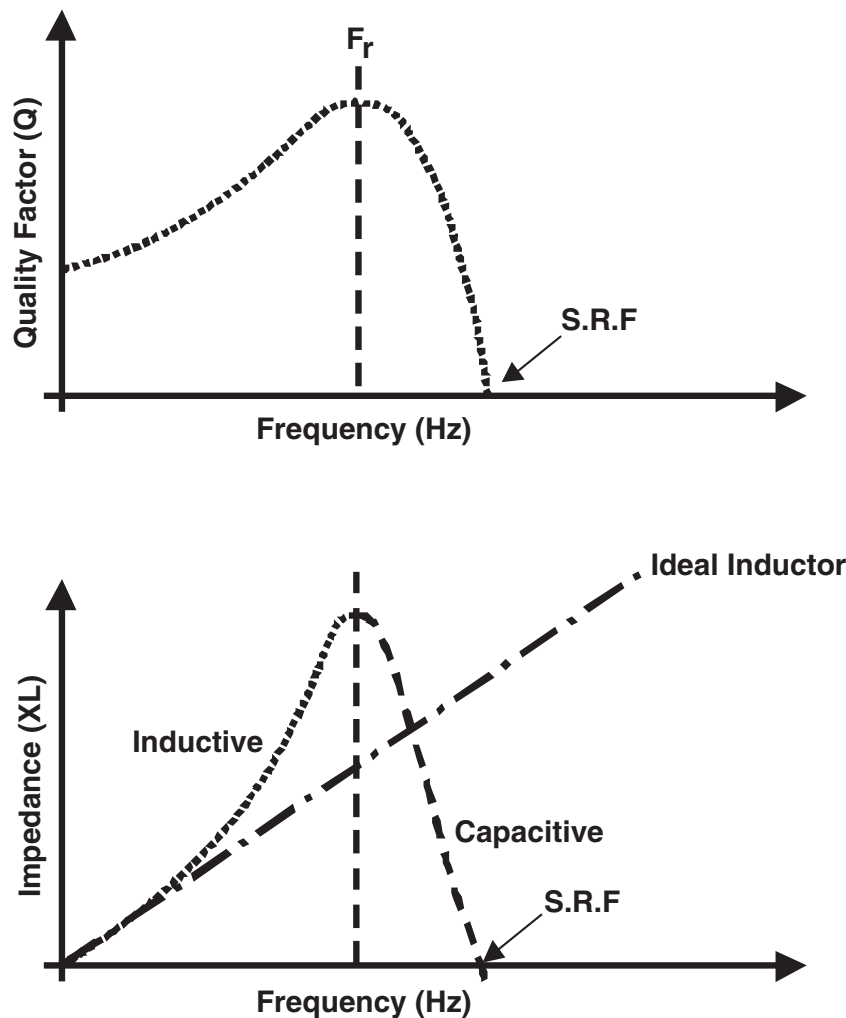

Fig. 2.0 Impedance and Inductance Characteristic of a Real World Inductor
The effect of C_d can have a dramatic effect upon the impedance of the inductor as illustrated in Fig 2.0, because "fringe" effects become dominant at high frequencies. At low frequencies the inductor's reactance parallels that of an ideal inductor. With increasing frequency the reactance of the inductor departs from the ideal curve and increases at a much faster rate until it reaches a peak value at the inductor's parallel resonant frequency (F_r). Above F_r the inductor's reactance begins to decrease with increasing frequency and thus the inductor begins to look like a capacitor. The series resistance (R_s) of the coil prevents the impedance of the inductor from reaching infinity at resonance (F_r). Another effect of R_s is to broaden the resonant peak of the impedance curve at F_r .
At low frequencies, the Q of an inductor is very good because the only resistance in the winding is the dc resistance of the wire which is very small (Fig. 2.0). As mentioned earlier, as the frequency increases, the skin effect increases to degrade the Q of the inductor. At low frequencies, the Q increases directly inline with the reactance (XL) since the skin effect has not become noticeable. The Q continues to rise, but as the frequency approaches Fr, the skin effect starts to become a dominant, reducing the rate of increase. At Fr, the series resistance and reactance are increasing at the same rate. Above Fr, the distributed capacitance Cd and skin effect of the winding combine together to decrease the Q of the inductor to zero at SRF.